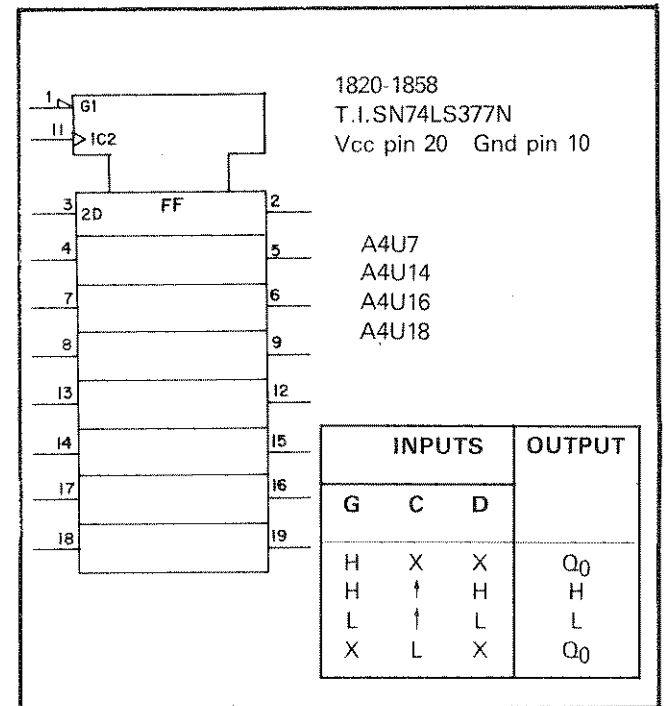

Figure B-16. Octal D-Type Flip Flop
**D-Type Flip Flop.** D-type flip flops are used for temporary storage of one bit of binary data. Figures B13 through B-16 show four varieties of D-type flip flops. In each, the D input is stored and transferred to the output when the control input, C, goes from low to high. The C input in Figure B-16 is gated